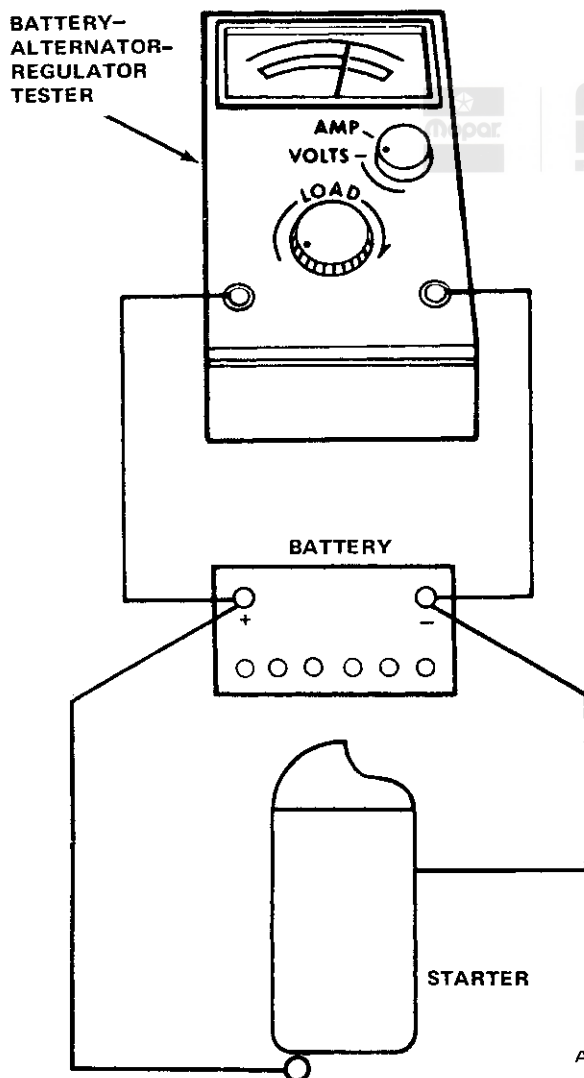

Fig. 1F-5 Starter Motor No-Load Test
- (1) Operate starter with test equipment connected as shown in figure 1F-5. Note voltage reading.